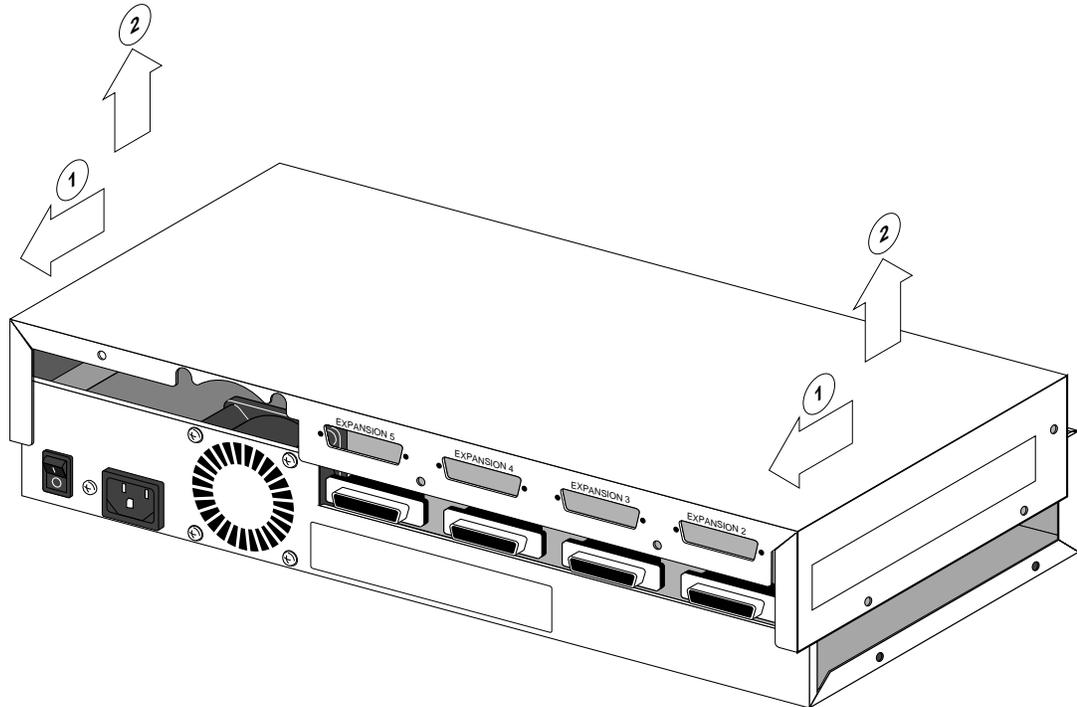

Figure 2. Removing concentrator cover
b. Slide the cover toward the *back* of the concentrator (see Figure 2) and then lift it up and away from the chassis. The cover must slide back to release an internal clip along the front edge and to clear the expansion connectors on the back of the concentrator.